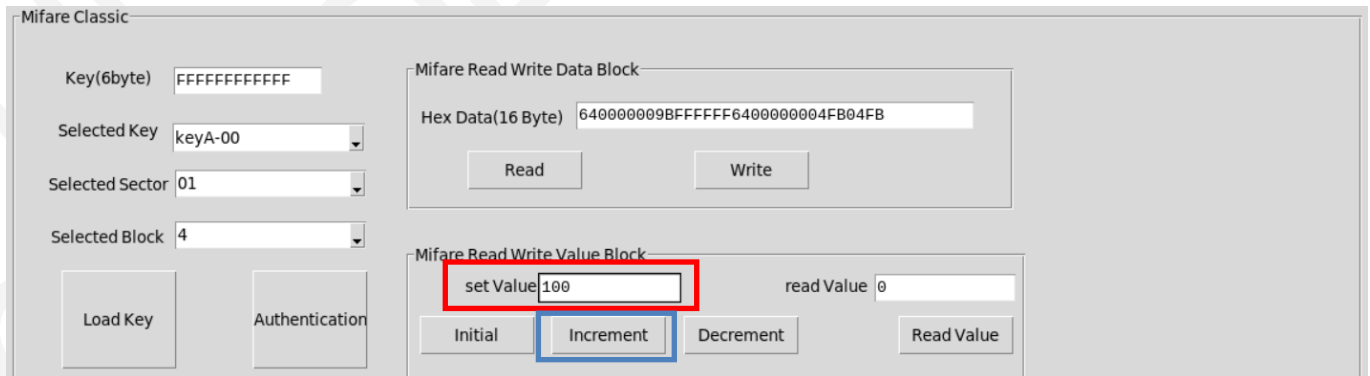

Figure 6.8-1 Increase value
7. Input value to be increase, as shown in Figure 6.8-1.